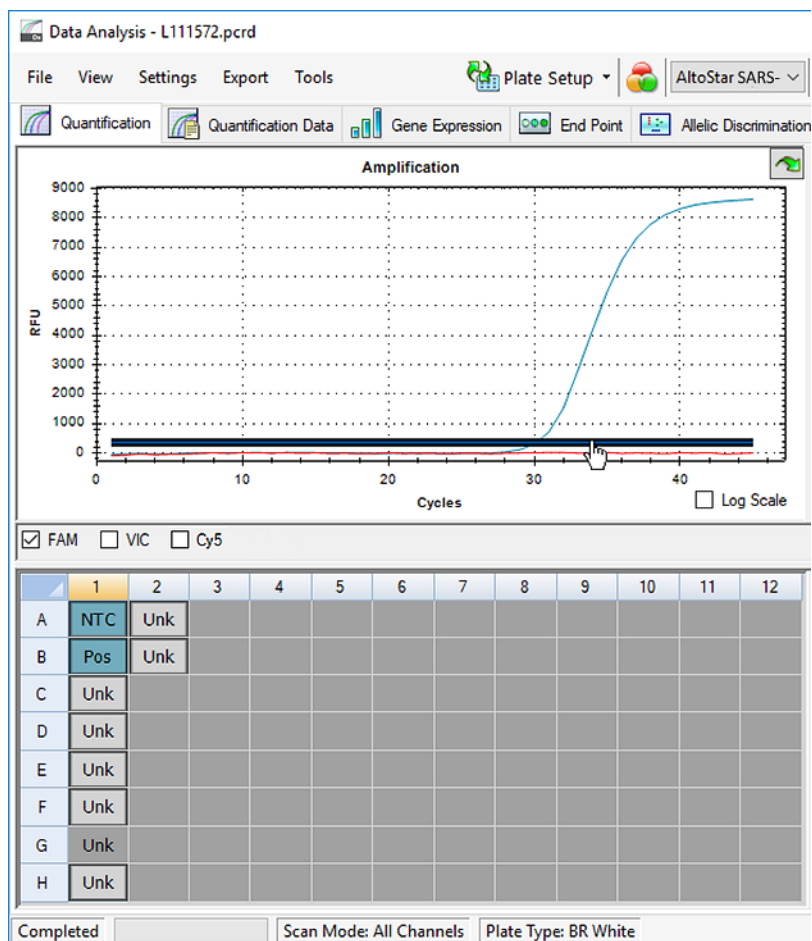

Figure 40: Data Analysis window: Setting the FAM™ threshold
- At the left side of the **Data Analysis** window untick the **VIC** checkbox and tick the **FAM** checkbox for the detection channel of E gene (see Figure 40).
6. Select only the wells containing the NTC and the Positive Control in the plate view of the **Data Analysis** window (see Figure 40).